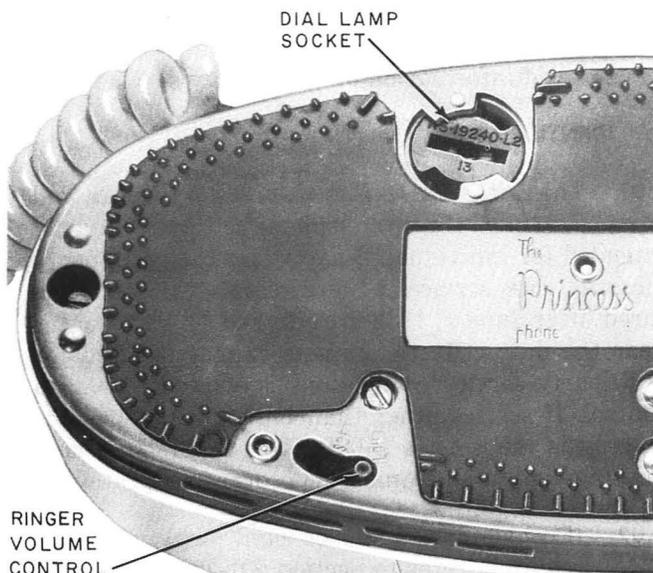

Fig. 4—2702B (MD), 2702BM (Early Version), and 2702BMG (Early Version) Telephone Sets, Partial Bottom View
2.05 The 2702B (MD) and early versions of the 2702BM and 2702BMG (Fig. 4) telephone sets